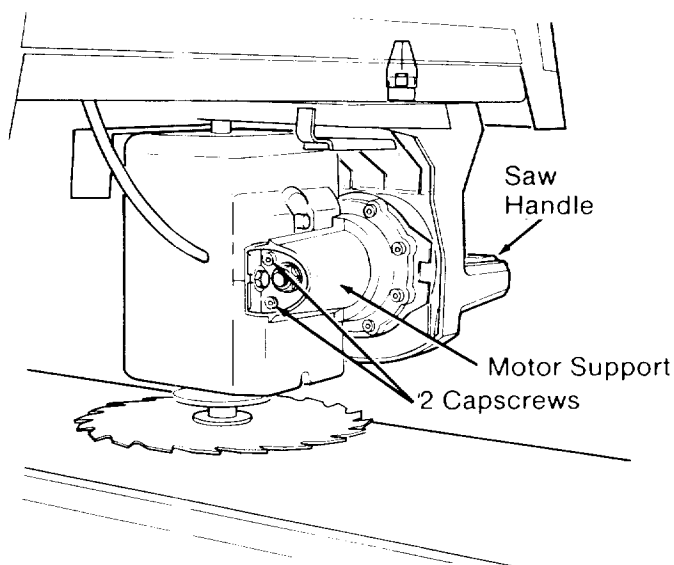

Fig. 76
10. Loosen the two screws on the back of the *motor support* using a 3/16 inch hex-L wrench and pliers if necessary. (Figure 76)